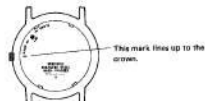

Fig. 1
- To open, turn in the direction of "OPEN" from the "CLOSE" position (Fig. 1) until the "SET" mark lines up to the crown.